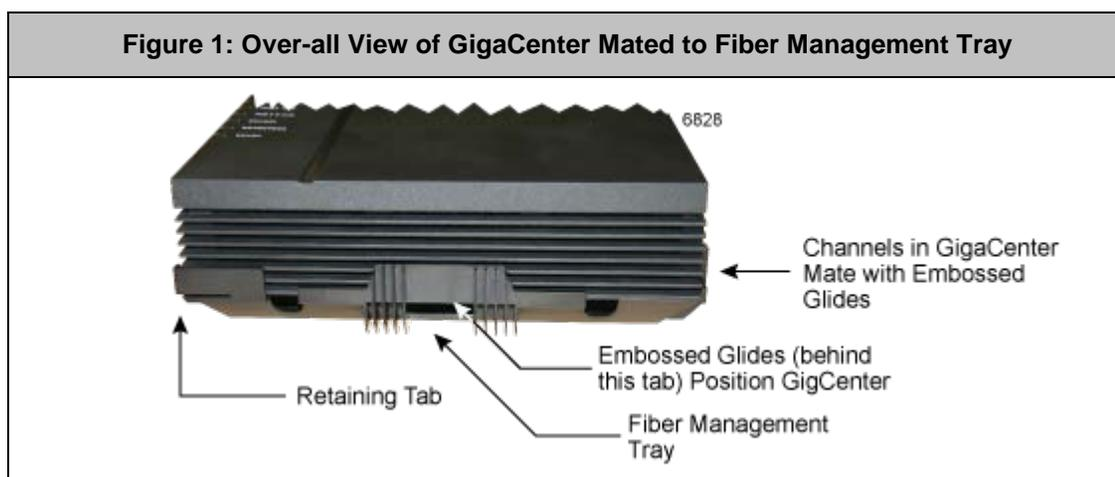

Figure 2: GigaCenter Slid partway and 5mm Pigtail Attached
5. With the GigaCenter partially engaged into the fiber management tray, grab the pigtail end and connect it to the bulkhead fitting on the GigaCenter (Figure 2).